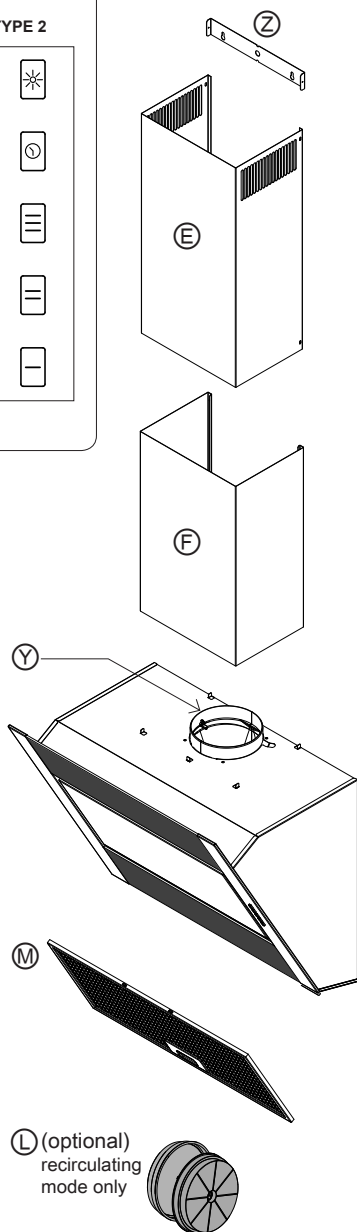

Fig.3
- Drill holes **A-B-C** according to indications quoted in (fig.3).